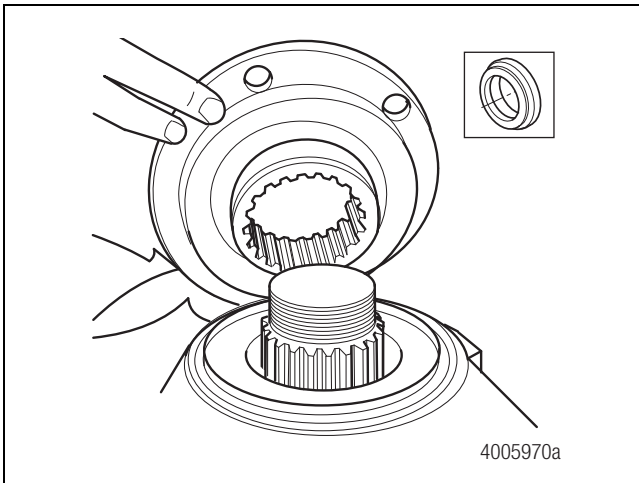

Figure 7.5
6. Inspect the deflector for damage. If damage is found, replace the deflector. Figure 7.5.